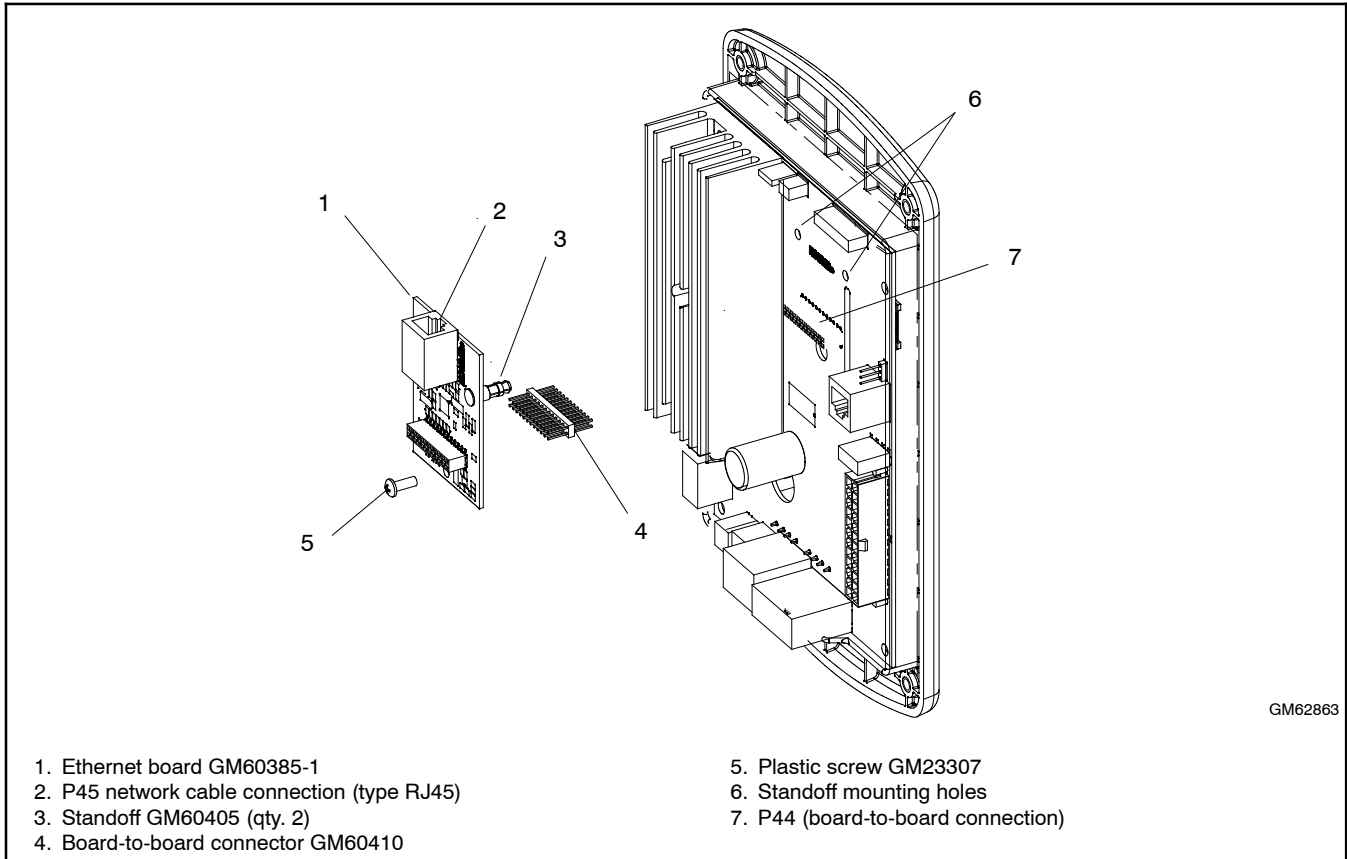

Figure 4 Ethernet Option Board Installation
9. Insert board-to-board connector GM60410 into P44 of Ethernet option board GM60385-1. See Figure 4.
10. Position the Ethernet option board with the network connector P45 pointing toward the top of the controller as shown in Figure 4.
16. Mount the controller assembly onto the junction box using the four (4) screws removed in step 7.
25. Connect the network cable to P45 on the Ethernet board. See Figure 4.